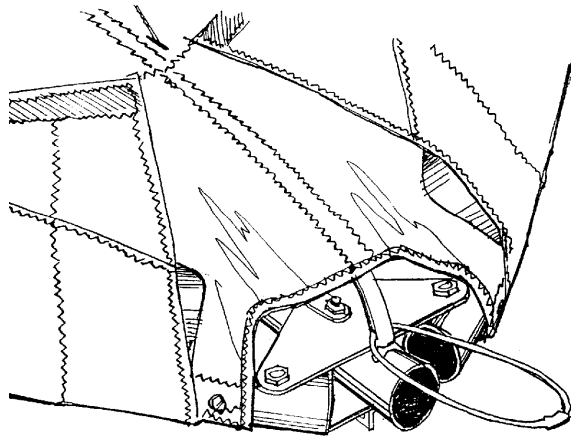

Fig.10
2.2.5. Grasp the string loop at the front of the nose batten and pull the forked batten-end up over until it sits on the top of the keel tube (Fig.10).